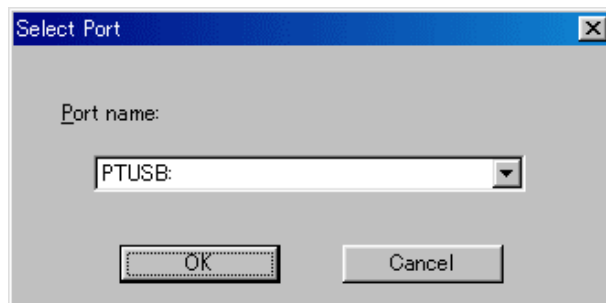

Fig. 1
- (4) Select 'PTUSB (PT-2300/2310-000000001)' in the pull-down box of the [Port name:] in Fig. 1 and click the [OK] button. The window as shown below appears.